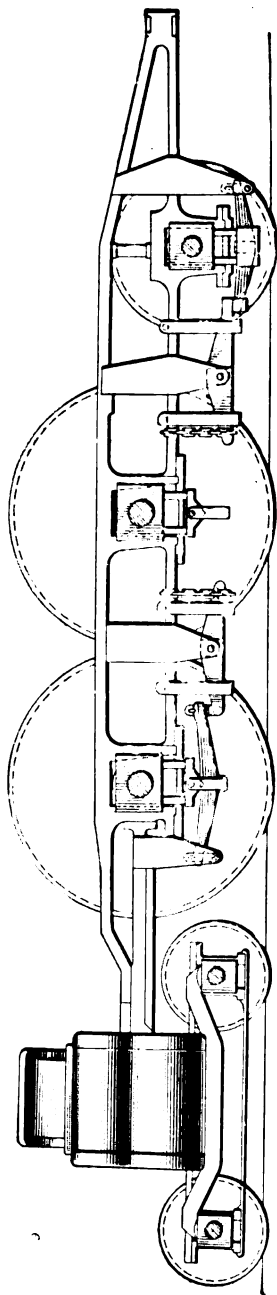

FIG. 42.
**85. Underhung Rigging.**—In the event of the main spring or hanger on an underhung spring rigging breaking, remove the broken parts in order to avoid further trouble, run the main driver up on a wedge so as to relieve the front driver and the trailer of the weight they carry, then prying up the back end of the front equalizer until it is a little above its normal position, chain the back end in this position, as shown in Fig. 42; next, pry up the front end of the back equalizer until it is slightly above its normal position and chain it in this position. Instead of chaining up the back end of the front equalizer and the front end of the back equalizer, as shown in Fig. 42, the front end of the front equalizer and the back end of the back equalizer may be blocked down to position by blocking between the end of the equalizer and the bottom bar of the frame. This will allow the use of the front and back springs, as in the previous case. After blocking the equalizers in position, run the main driver off the wedge and the front driver on it, and block between the top of the main driving box and the frame so that the main driver will carry its share of the load.